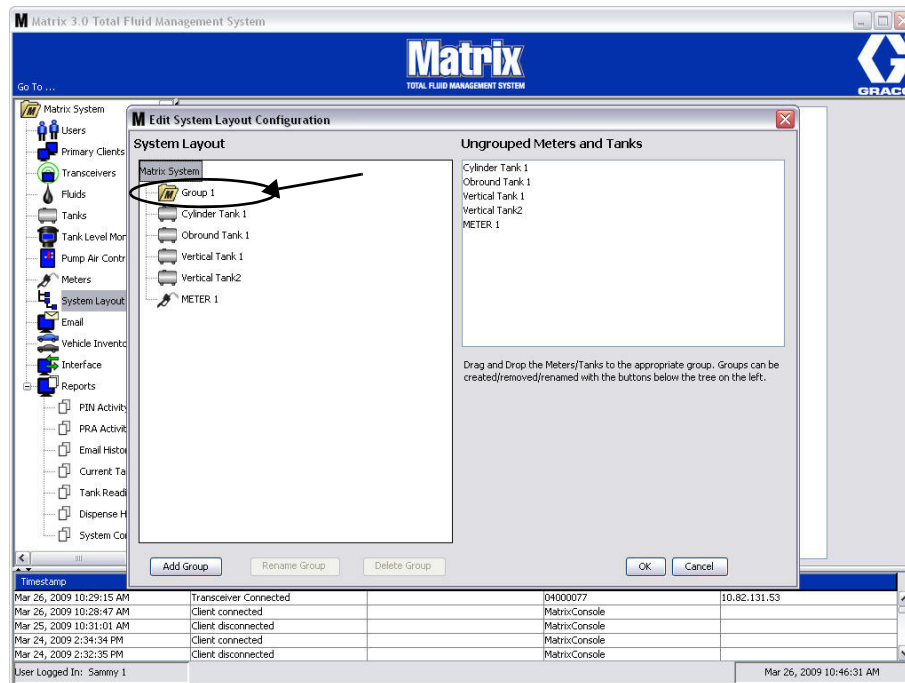

FIG. 127
- A folder is added on the Matrix System side of the screen as shown in FIG. 127.